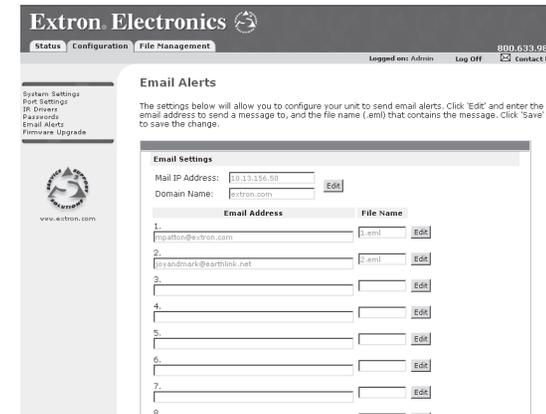

Figure 4-15 — E-mail Alerts screen
1. Click E-mail Alerts on the menu (on the left side of the window) and the E-mail Alerts screen (figure 4-15) is displayed.
2. Use the "Send e-mail" SIS command to send the alert to the e-mail address of a numeric mailbox (see figure 4-15). Refer to the *Command/response table for Simple Instruction Set (SIS) commands* later in this chapter for specific command code.